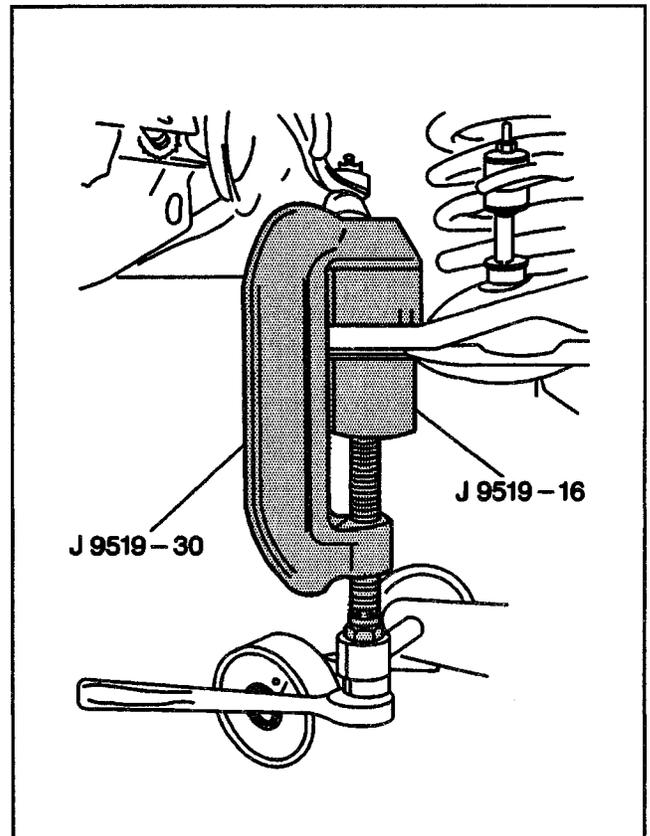

Figure 16—Installing the Lower Ball Joint
↔ Install or Connect (Figure 16)
1. New ball joint (69) into the lower control arm (40).
- Press in the ball joint using tools as shown in (Figure 16). The ball joint will bottom on the control arm.